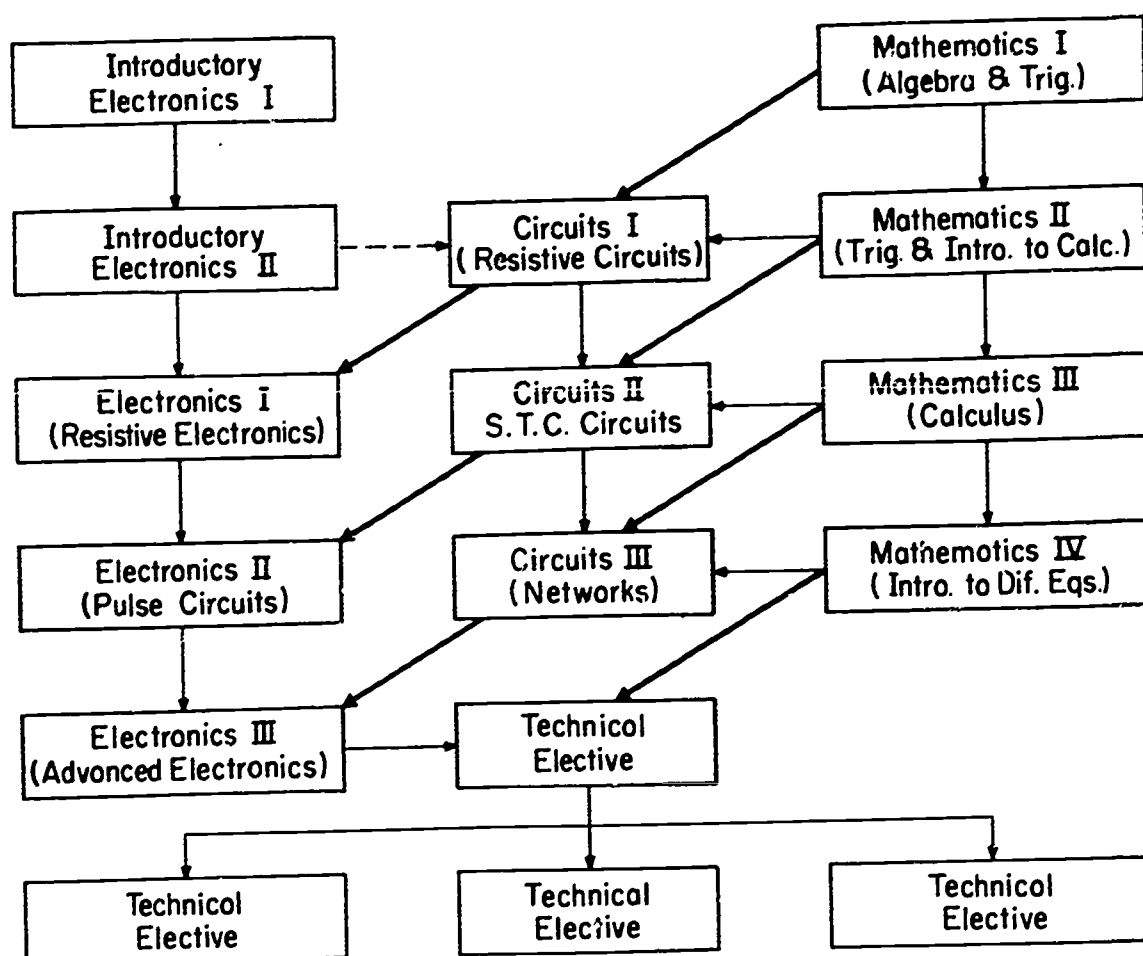

Fig. 1 Flow Chart for Mathematics, Circuits, Electronics and Technical Elective Courses
The curriculum is designed to meet the objectives of the two-year six quarter program. The complete curriculum, as shown on page 10, has a number of unique features. The flow chart of Fig. 1 shows how the technical specialty portion of the program and the mathematics courses are interrelated.
3. Circuits I (Resistive Circuits) provides the basic concepts for continued circuit analysis. The study of resistive circuits requires algebra and some trigonometry which are covered in Mathematics I in the first quarter. This course serves as a prerequisite to Electronics I (Resistive Electronics) which comes in the following quarter. Refer to the flow chart in Fig. 1.
are identified as: Electronics I (Resistive Electronics), Electronics II (Pulse Circuits) and Electronics III (Advanced Electronics). These three courses in electronics follow a natural sequence that is integrated and sequenced in accordance with the background knowledge from the courses in the circuits area as well as from the mathematics area. For example: Electronics I (Resistive Electronics) follows Circuits I (Resistive Circuits) which, in turn, follows Mathematics I. The flow diagram of Fig. 1 shows the sequencing of the basic courses. Observe the heavy diagonal lines that slant downward from right to left, from the mathematics area to the circuits area to the electronics area.